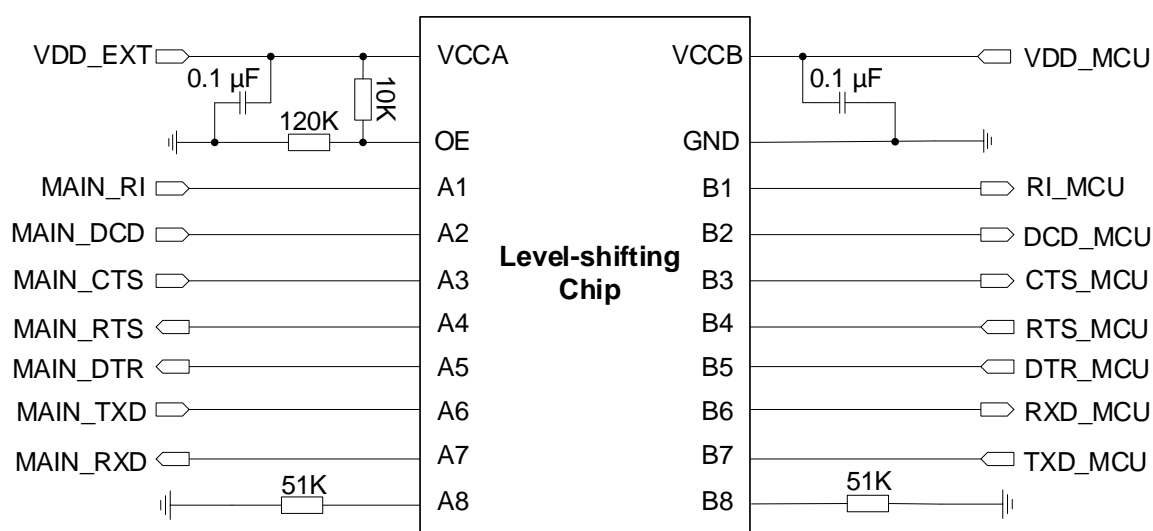
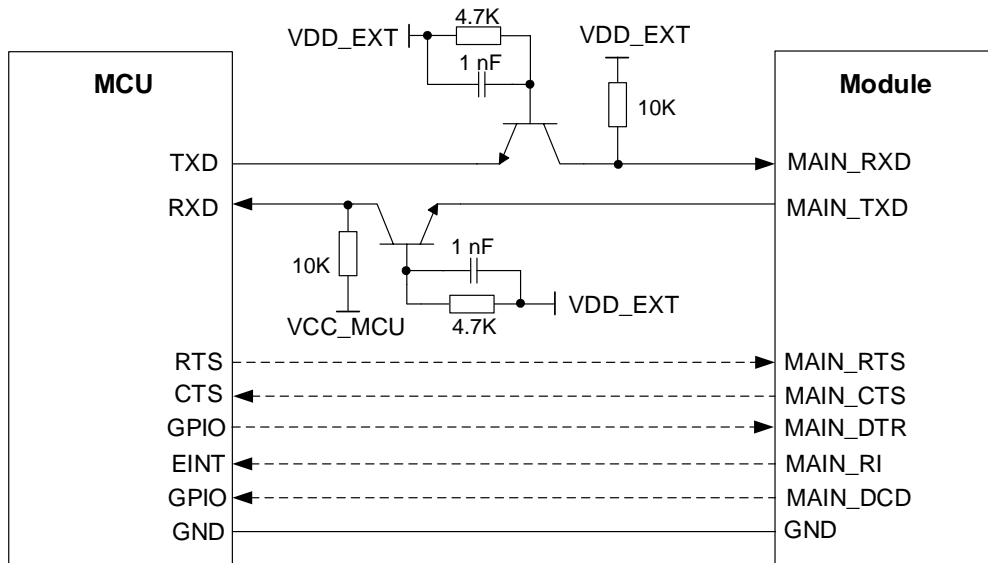

Figure 26: Reference Design of UART with Level-shifting Chip (Main UART)
Figure 27: Reference Design of UART with Transistor Level-shifting Circuit (Main UART)
3. The level-shifting circuits (**Figure 26** and **Figure 27**) take the main UART as an example. The circuits of debug UART, GNSS UART and GNSS debug UART are connected in the same way as the main UART.